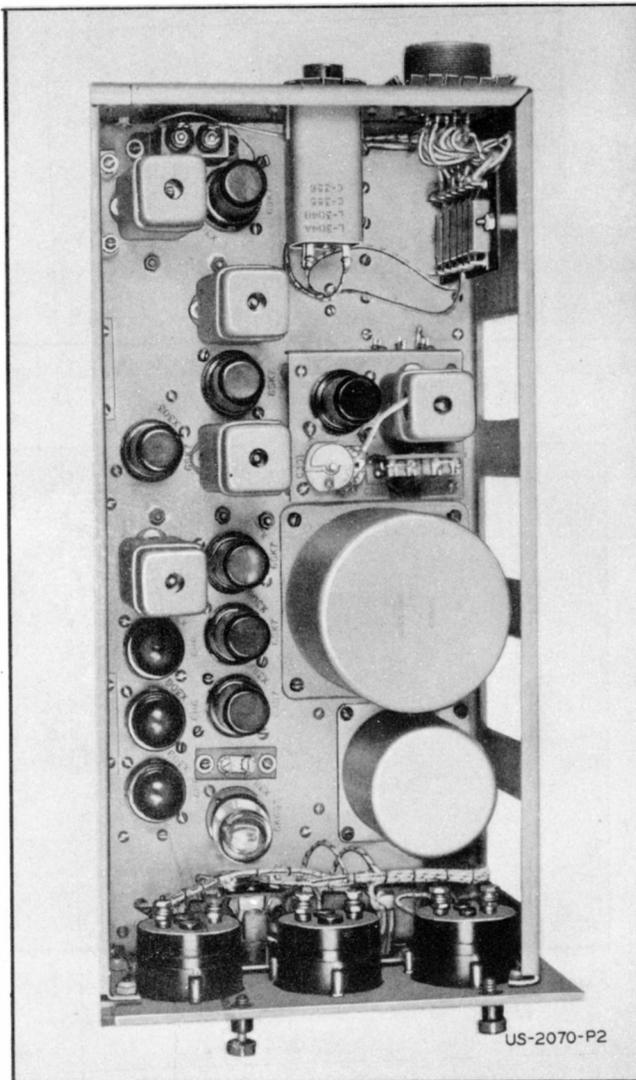

Figure 1-8 — Models RBB/RBC (only) or RBB-1/RBC-1 (up to Serial No. 1,000) Radio Receivers, I-F/A-F Unit Chassis (Top View)
(2) The chassis supports circuit components and wiring is underneath the chassis (see Figures 1-8, 1-9, 1-10, and 1-11). All tubes are accessible from the top of the chassis when the receiver unit is partially withdrawn from the cabinet.
(5) The cw oscillator is constructed in the form of a sub-assembly. In all Models RBB/RBC radio receivers and Models RBB-1/RBC-1 radio receivers up to Serial No. 1,000 the cw oscillator vernier capacitor (C301) is mounted on top of the i-f/a-f unit chassis (see Figures 1-8 and 1-9). In Models RBB-1/RBC-1 radio receivers from Serial No. 1,001 and up, and all Models RBB-2/RBC-2 radio receivers the cw oscillator vernier capacitor (C301) is mounted underneath the i-f/a-f unit chassis (see Figures 1-10 and 1-11).